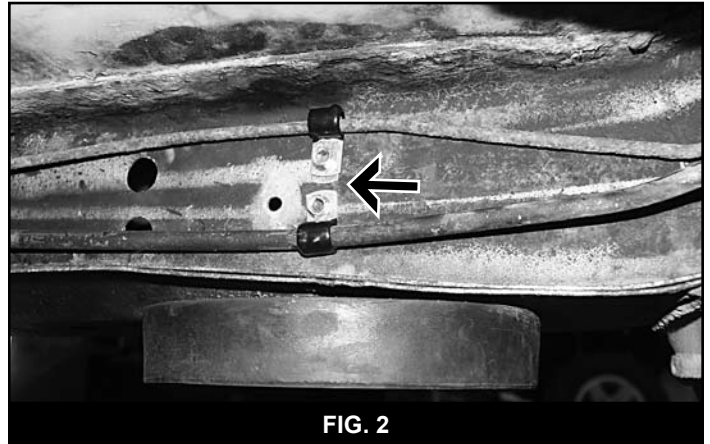

FIG. 2
7. Locate the hole in the frame where the original plastic retaining clip was installed. Install the brake hard line to the frame with the provided clip and self-drilling screw just ahead (1/2" max) of the existing hole in the frame (Fig 2). Position the line up against the floor with the clip mounting tab pointing down. Carefully reform the brake line as needed. Tighten screw securely.
8. Attach the fuel line in the same manner as the brake line. Position the clip directly below the brake line clip with the mounting tab pointing up (Fig 2). This will make the fuel line run low, close to the uni-body pinch weld. **Note:** These line locations provide clearance for the new upper control arm mounting bolt.